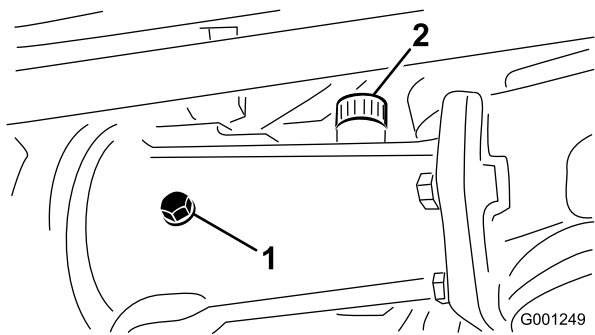
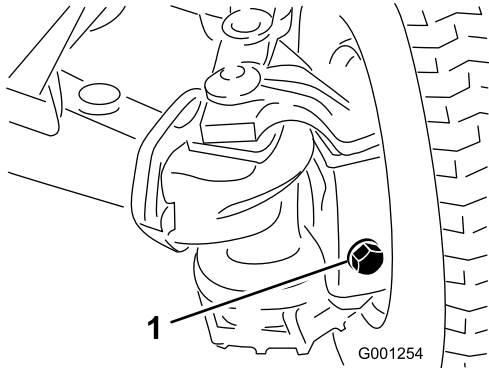

Figure 62
Figure 63
2. Remove the check plug from the center-axle housing and the axle and fill/check plugs at each outboard-axle case (Figure 62 and Figure 63).
3. Check that there is lubricant up to the threads at the bottom of each plug hole (Figure 62 and Figure 63).
- A. If filling the center-axle housing, remove the fill plug (Figure 62).
- B. Add the specified rear-axle lubricant into the axle reservoir(s) until the lubricant level up to the bottom of the check-plug holes (Figure 62 and Figure 63).
- C. If removed from the center-axle housing, apply PTFE thread sealant to the threads of the fill plug and install it into the housing (Figure 62).
5. Apply PTFE thread sealant to the threads of the check plug from the center-axle housing and fill/check plugs from the 2 outboard-axle cases (Figure 62).
6. Install the check plug into the center-axle housing and fill/check plugs into the 2 outboard-axle cases (Figure 62 and Figure 63).
1. Drain plug (3)
8. Apply PTFE thread sealant to the threads of the check plug from the center-axle housing and fill/check plugs from the 2 outboard-axle cases; refer to Figure 62 and Figure 63 in Checking the Rear Axle Lubricant \(Model 30345 Only\) (page 47).
9. Install the check plug into the center-axle housing and fill/check plugs into the 2 outboard-axle cases; refer to Figure 62 and Figure 63 in Checking the Rear Axle Lubricant \(Model 30345 Only\) (page 47).